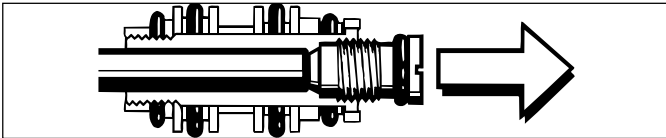

Figure 5
1.1.13 When the crown has been unthreaded from the crown housing, insert the large, blunt end of the seal/seal extractor (P/N 5116236) through the opposite end of the crown housing, and gently press out the crown (see Fig. 5). Remove and discard the crown O-ring(3).